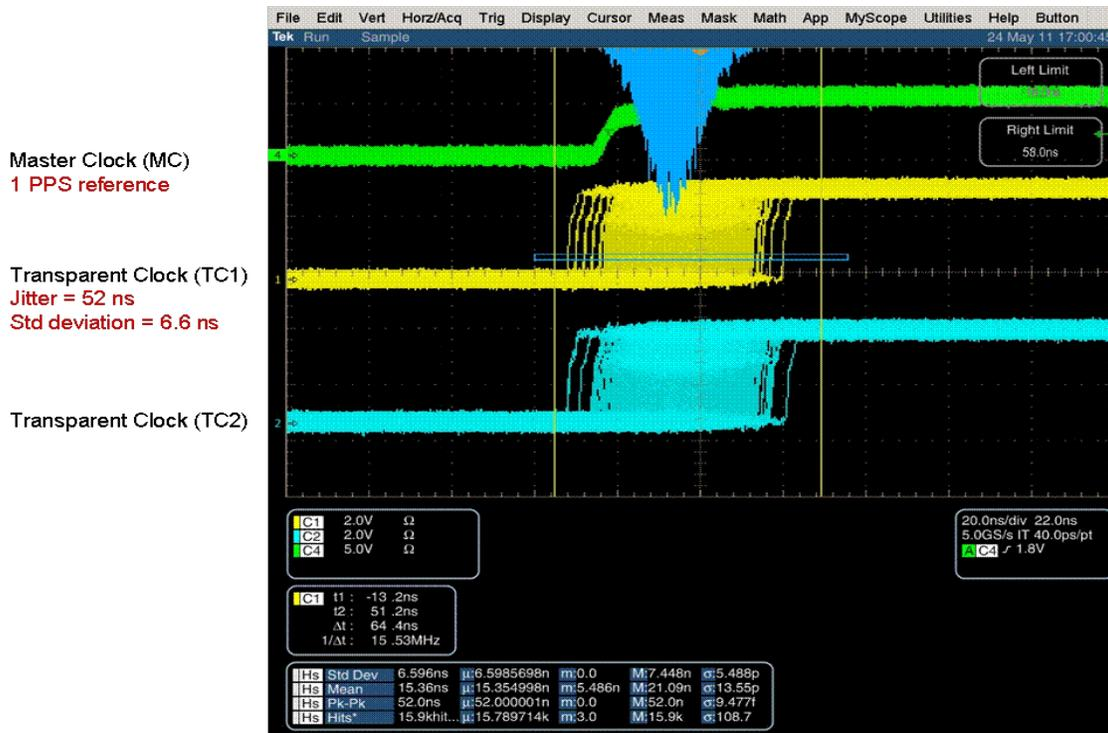

Figure 13 Sample 1 PPS Oscilloscope Capture
- A7. Typically, the 1 PPS signal from the Grandmaster or Master node is used as the trigger on channel one of the oscilloscope. Channel 2 is connected to the 1 PPS signal on one of the other KSZ8441 Evaluation boards. The 1 PPS signal is generated on the GPIO6 signal pin. If the oscilloscope has a persistence feature, it can be used to view accumulating past occurrences of the signal on channel two with respect to the 1 PPS signal on channel 1. Depending on the oscilloscope used, there is other statistical analysis that can be performed on the signals. Figure 13 illustrates an oscilloscope signal capture.